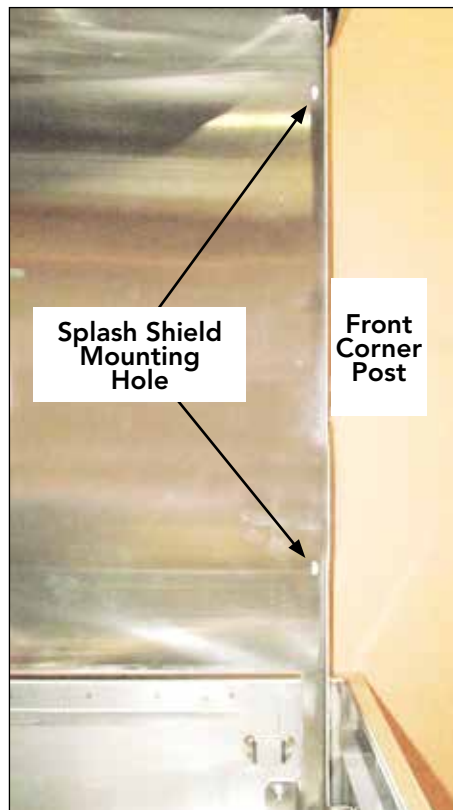

Fig. 6
7. Locate the mounting holes on the right-hand front corner. (Fig. 6).